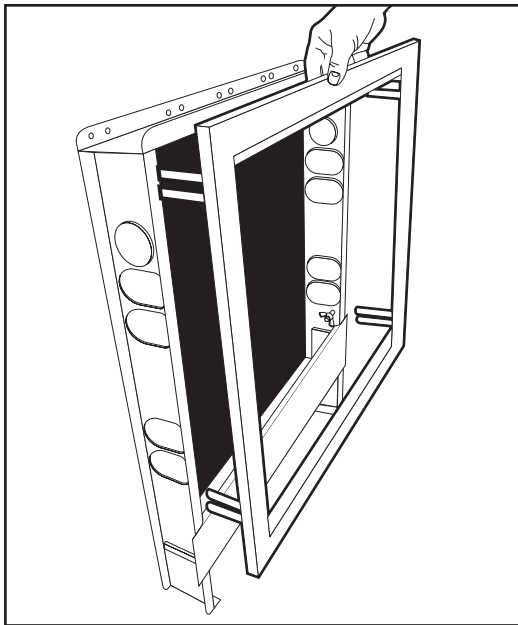

Figure 4
3. Slide the door frame brackets towards the manifold cabinet studs until they attach to the manifold cabinet. See Figure 4.